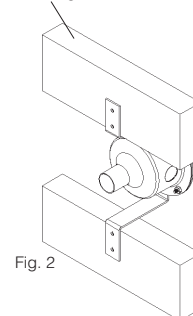

Fig. 2
- Attach the assembly by nailing or screwing to blocking (by others) as shown in Fig. 2. The front of the backbox should measure 1/2" out from the face of the blocking.